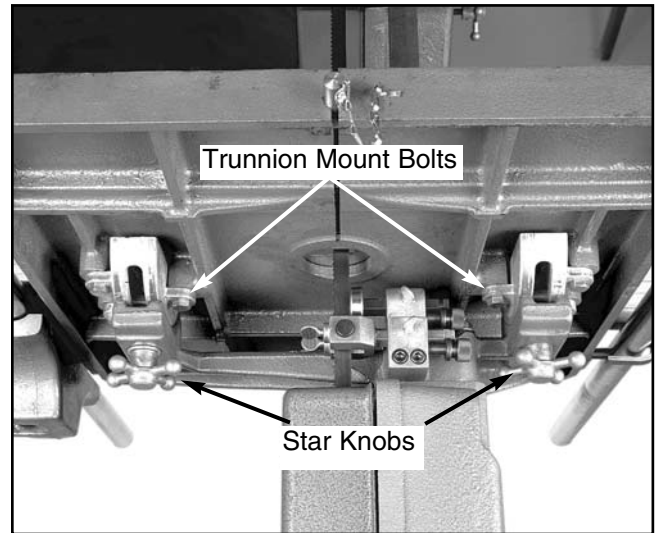

Figure 22.
2. Loosen the 6 bolts securing the trunnions to the table OR loosen the 3 trunnion support mounting bolts securing the trunnion support to the bandsaw. Leave the star knobs tight. **Figure 22** shows the location for these controls.
1. Loosen the two star knobs below the trunnions shown in **Figure 22**.